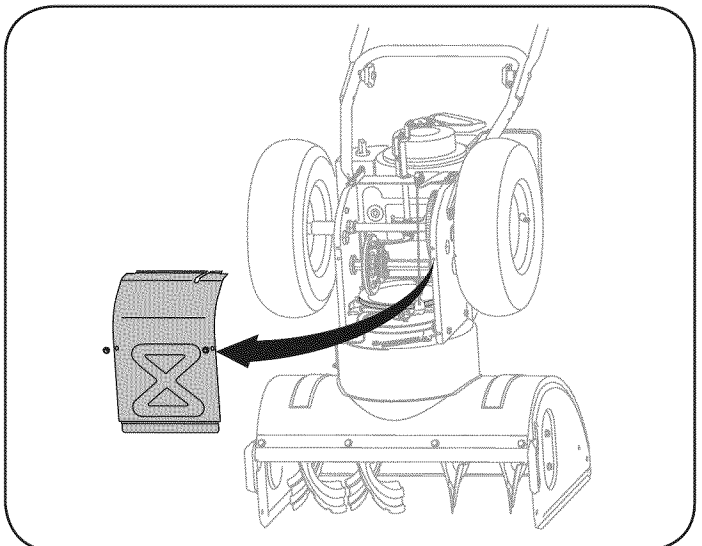

Figure 24
5. Remove the frame cover from the underside of the snow thrower by removing four self-tapping screws which secure it. See Figure 24.
5. Remove the frame cover from the underside of the snow thrower by removing four self-tapping screws which secure it. Refer to Figure 24.